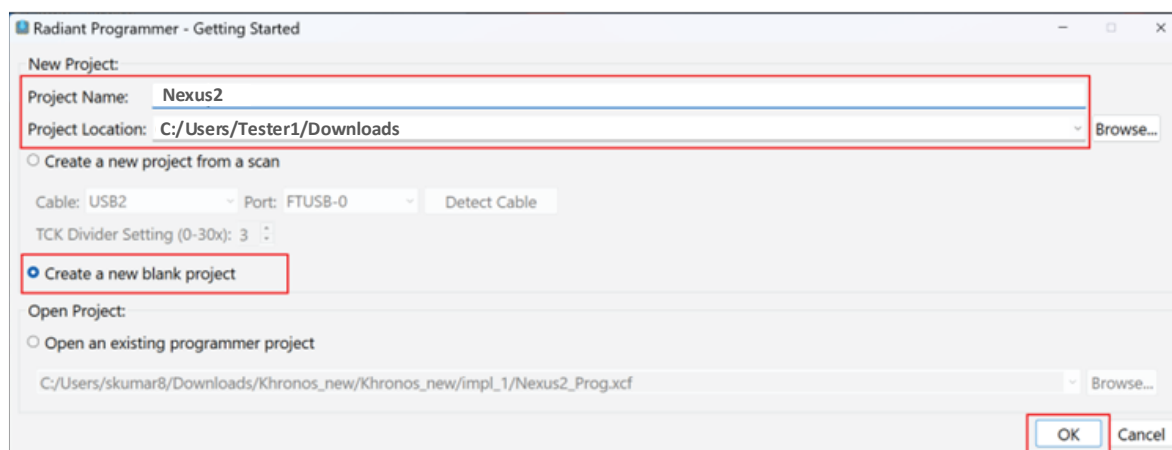

Figure 3.2. Radiant Programmer Interface – Getting Started
4. Double-click the **Operation** field when the Radiant Programmer interface opens (see Figure 3.2).